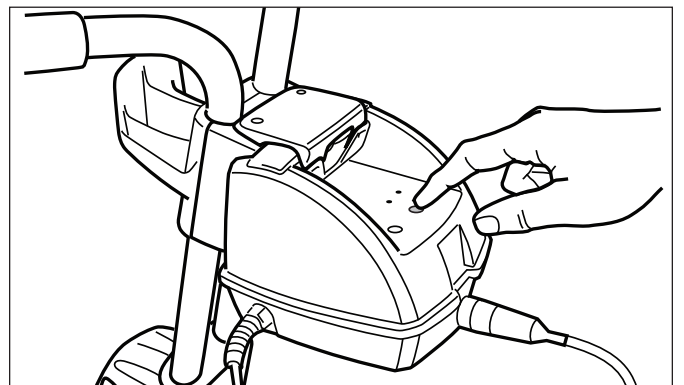

Figure 17. Turn Cleaner Off
4. If you wish to stop the cleaner during a cleaning cycle, press the OFF button. Refer to Figure 17.